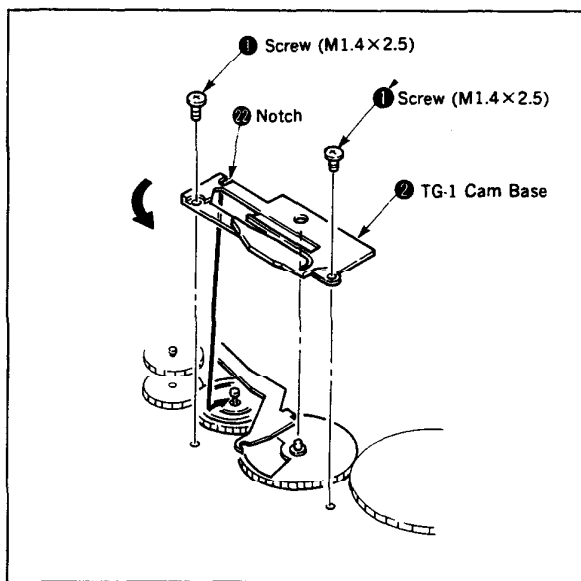

Fig. 35
- 8) Put the TG-1 cam base ② in place, fit the notch ③ to the shaft and shift it in an arrow direction, and mount the screws ① and ④ in that order. (Fig. 35)